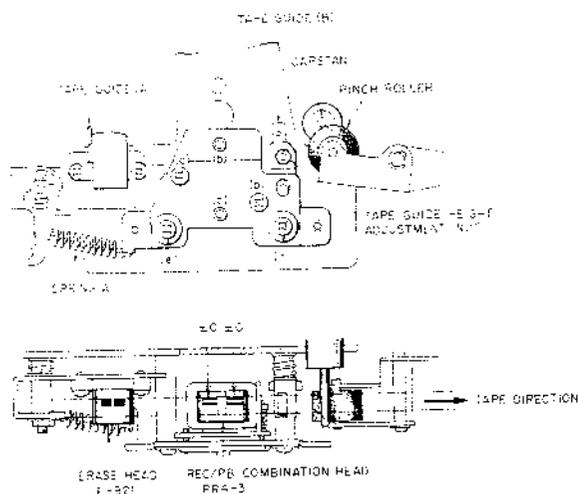

Fig. 16
(Refer to Figs. 16, 17)
2. HEIGHT ADJUSTMENT OF RECORDING/PLAYBACK COMBINATION HEAD (Refer to Fig. 16)
- 2) As shown in Fig. 16 adjustment head height with screws (a), (b), (c) and (d) until the upper edge of the left channel REC/PB combination head core
3. AZIMUTH ALIGNMENT ADJUSTMENT OF RECORDING/PLAYBACK COMBINATION HEAD (Refer to Fig. 16)
(Refer to Figs. 16, 18)